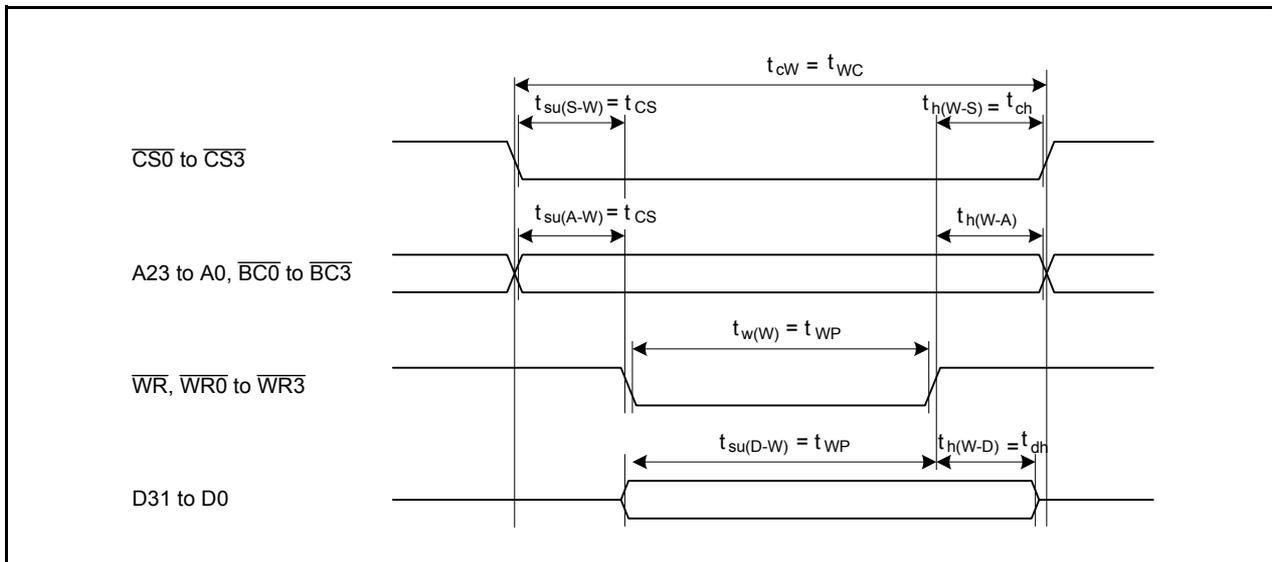

Figure 4.6 Write Bus Timing Comparison between the R32C/100 Series and the External Device
tsu(A-W)(= tsu(S-W)) and tw(W) of the external bus timings are calculated using the external device requested timings (tCS and tWP). Figure 4.6 shows the Write Bus Timing Comparison between the R32C/100 Series and the External Device.
Set tw(W) to be tWP or more from Figure 4.6. Because tWP is 45 ns from Table 4.1, tw(W) should be 45 ns or more. The optimal value for tw(W) is 60 ns from Table 4.5.